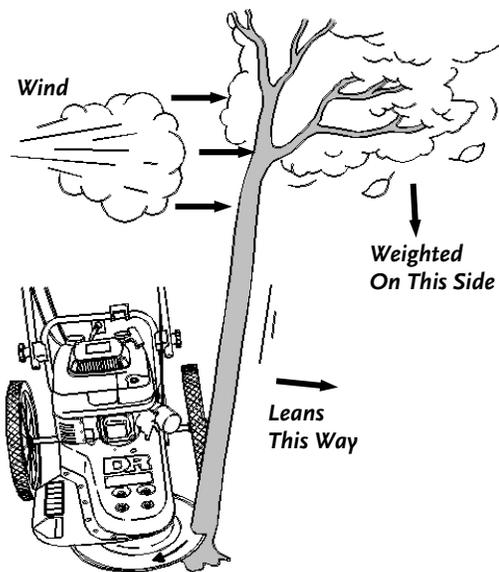

Figure 6
- Always cut so the tree will fall in the direction wind is blowing (**Figure 6**).